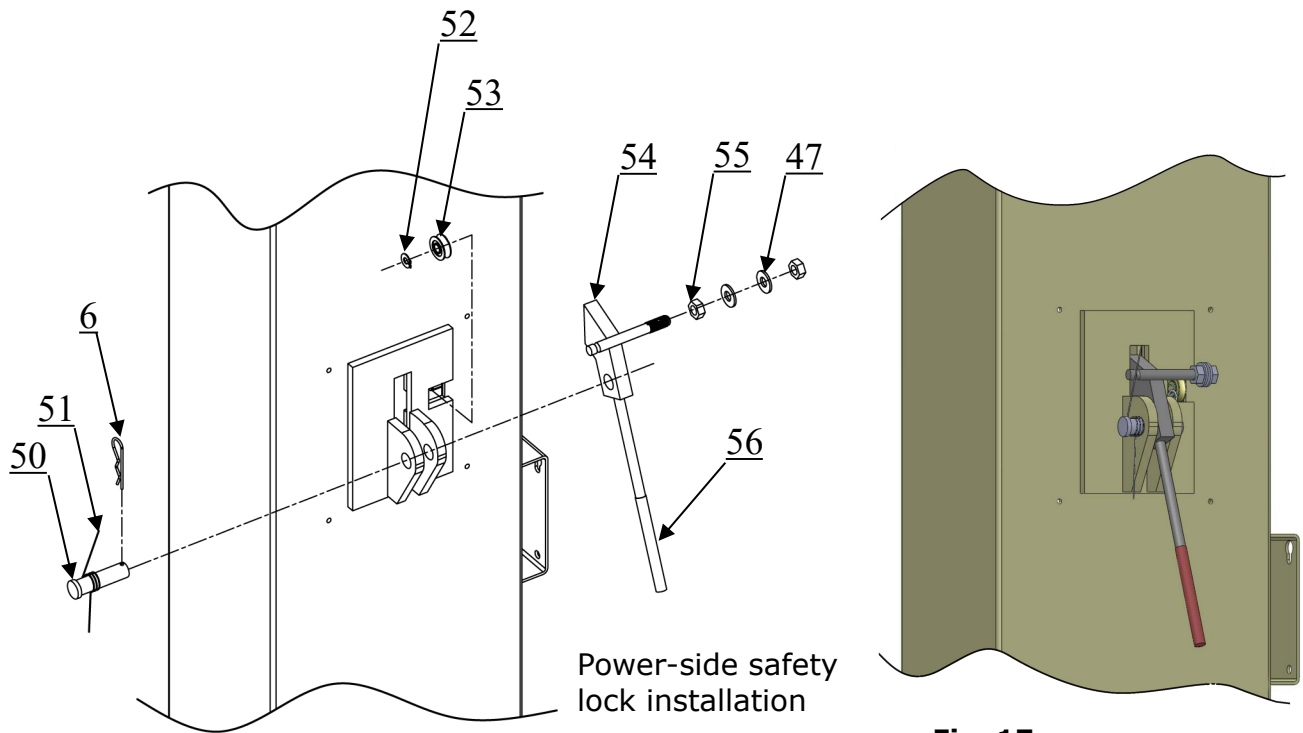

Fig. 17
G. Install safety Lock (See Fig. 17 & 18)